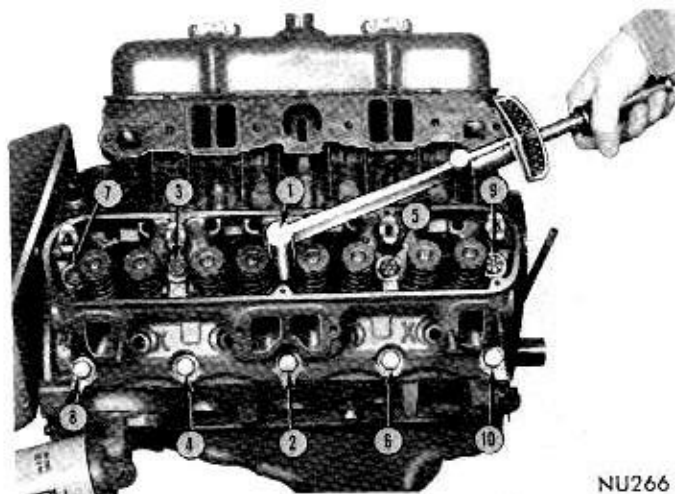

Fig. 5—Cylinder Head Tightening Sequence
(3) Coat new gaskets lightly with number 1057794 Sealer and install on cylinder block.
(4) Remove cylinder heads from holding fixtures Tool C-3626 and place heads on engine.
(5) Install cylinder head bolts. Starting at top center, tighten all cylinder head bolts to 50 foot-pounds in sequence, as shown in Figure 5. Repeat procedure, retighten all cylinder head bolts to 85 foot-pounds.
(6) Inspect push rods and replace worn or bent rods.
(7) Install push rods, rocker arm and shaft assemblies with the "NOTCH" on the end of rocker shaft pointing to centerline of engine and toward front of engine on the left bank and to the rear on right bank, making sure to install the long stamped steel retain-